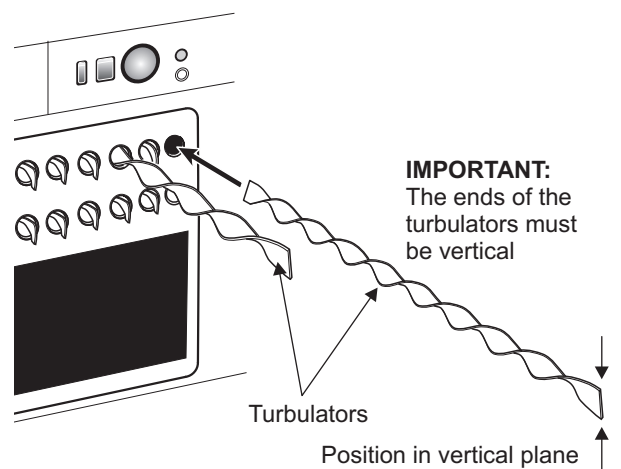

Fig. 28 - Removal/replacement of spiral turbulators (50/90 shown)
- 7 Pull out the spiral turbulators from the heat exchanger tubes. See Fig. 28.